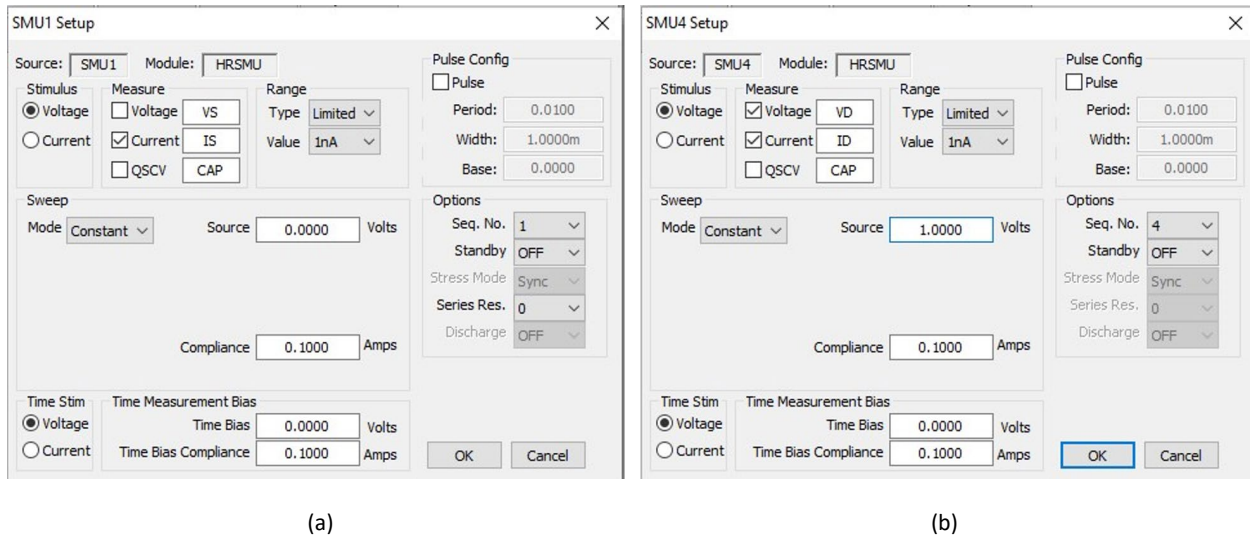

Fig. 6.5. Mainframe setup for SMUs connected to (a) source and (b) drain terminals of a JFET.
- 6.12 Click on the SMUs assigned to other device terminals. Check on "Voltage" or "Current" or both to allow them to be measured. Fig. 6.5(a) illustrates the measurement of the source current with the source grounded. Fig. 6.5(b) illustrates the measurement of the drain current under a drain voltage of 1 V. Since PGU can only generate and cannot measure, you can get an idea of the gate current by comparing the measured source and drain currents. **Make sure the compliance is set low such as 0.1 A!** Click on "OK" to close the "PGU" or "SMU" setup windows and "Done" to close the "Setup Editor" window.